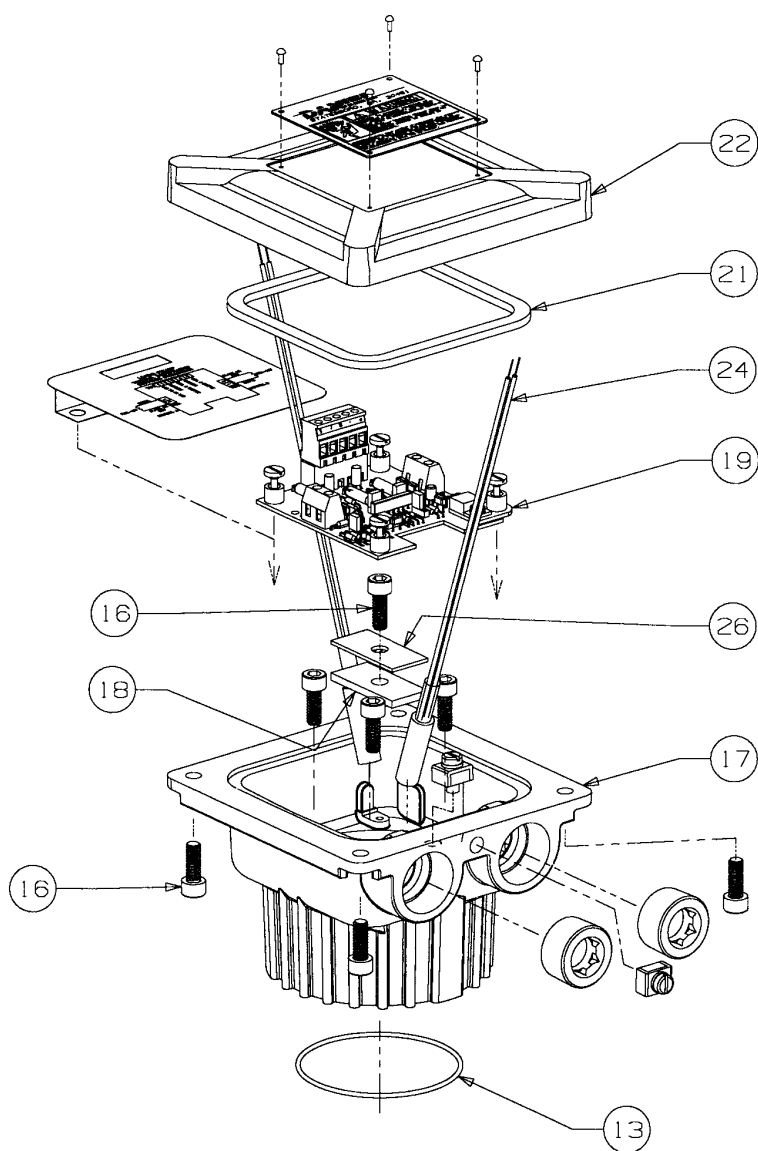

Figure 7-1. UMB Assembly - All Sizes (Reference Table 7-1)
2. Disconnect conduit connections to the Series 1500 Turbine. (Reference Figure 7-1)
- a. Remove screws (item 52) and top cover (item 16) of the UMB.
- b. Disconnect conduit connections from terminal board TB1 (assembly item 56).
See Figures 7-1 through 7-6.
Table 7-1. UMB Assembly (All Sizes) (Reference Figure 7-1)